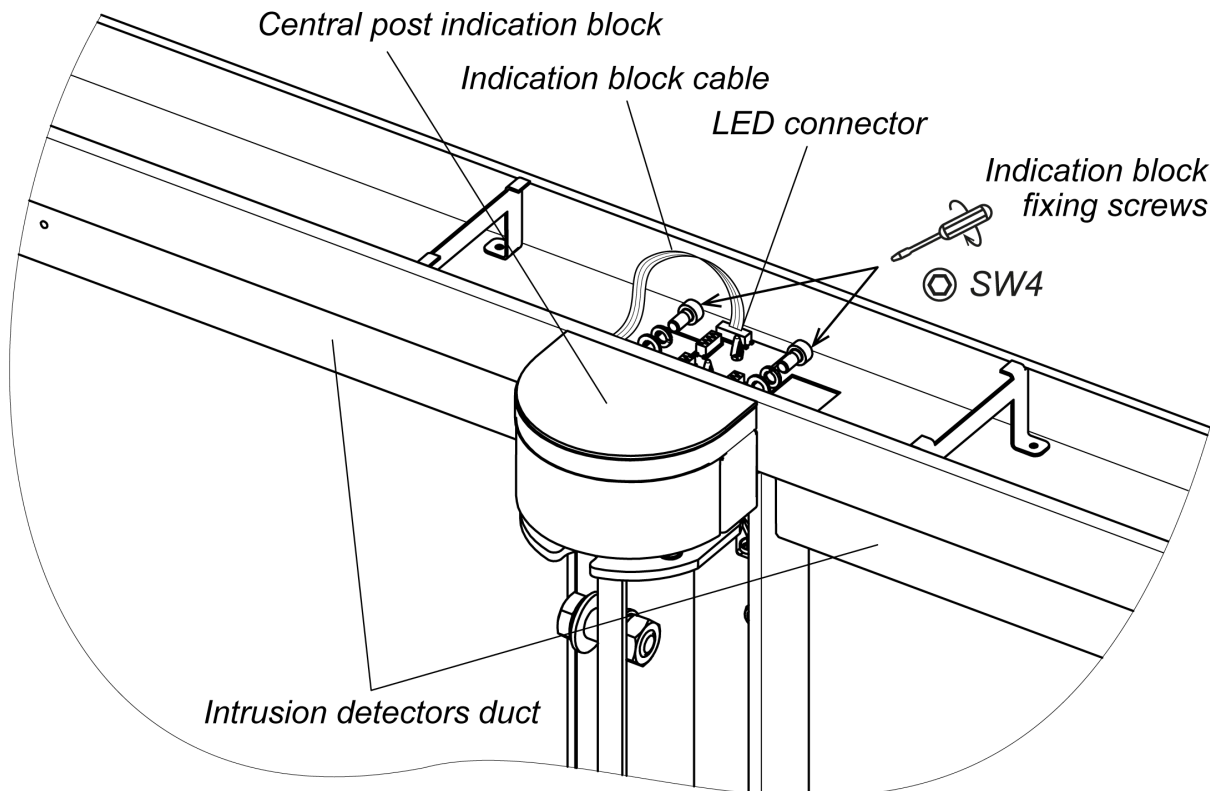
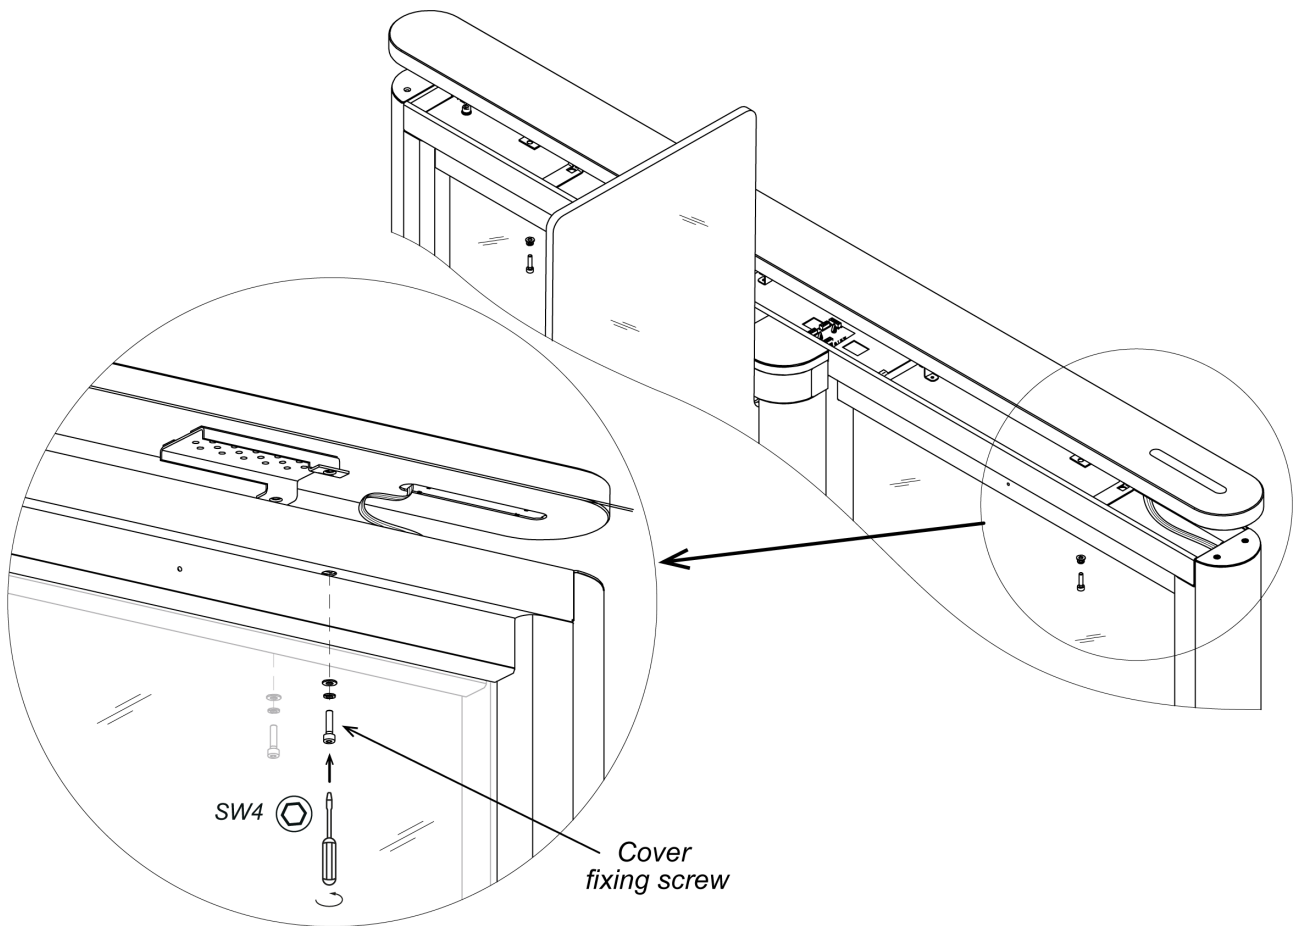

Figure. 22 Central post indication block installation
Figure. 23 Top cover installation
In order to install the central post indication block (5), proceed as follows (Fig. 22):
3. Install the indication block on the surface, located above the rotating support of swing panel and using an SW4 Allen wrench fix it on the post top duct (7), using two M5×16 screws with washers from the delivery set.
Remove the central post indication block in a reverse order. Disassemble the section top cover (6) and two shielding plates prior to removal (Sect. 8.9.6, Fig. 23).
Sections' top covers installation order (fig.23):